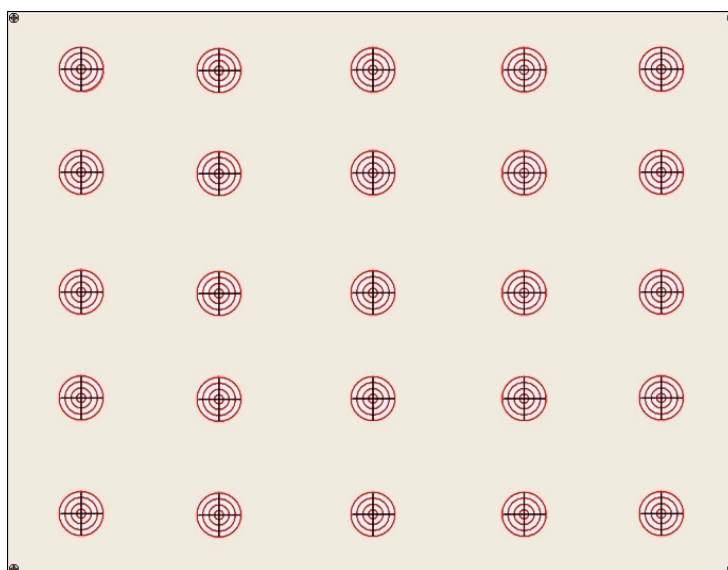

Figure 6.2 Calibration Target Points
There are 29 calibration target points: 25 main screen targets and four (4) small corner targets. Figure 6.2 shows the pattern for the 5 x 5 main targets and four (4) corner targets.